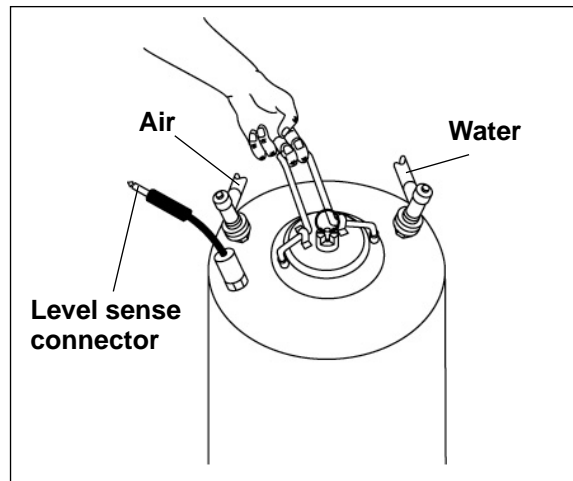

Figure 5.7
2. After releasing pressure, release and remove Water Canister lid (Figure 5.7).